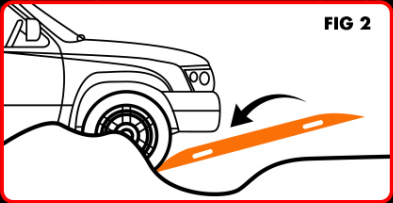

FIG 2
Remove as much material as possible in front of all tires to allow the vehicle to move forward. Position the end of the traction board as low as possible and wedge it against the tire tread. (FIG 2)
2. Step 2: Position the Tracks (FIG 2)